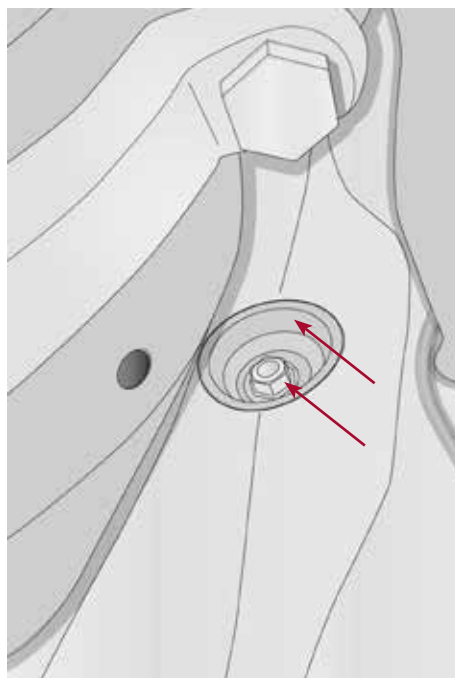

Figure 137: Inspecting Adjuster & Boot
3. Inspect the adjuster boot and plug for wear, damage or deterioration. Refer Figure 137.